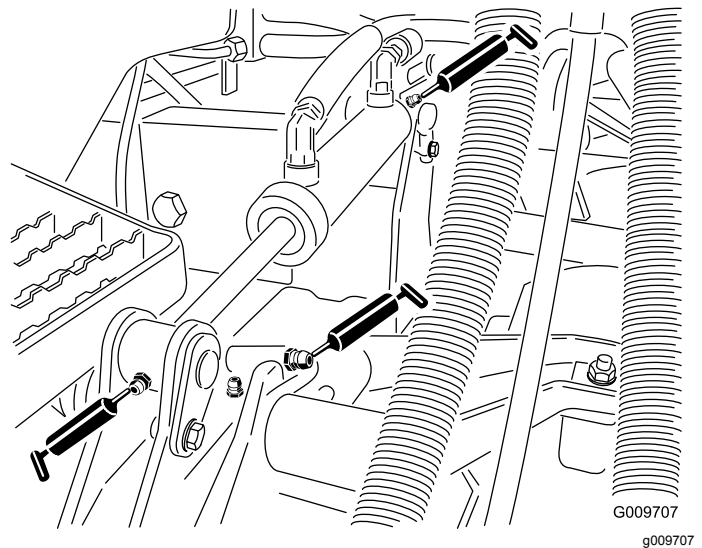

Figure 78
- Lift-arm bushings (1 per cutting unit) as shown in Figure 78
- Lift-cylinder bushings (2 per cutting unit) as shown in Figure 78